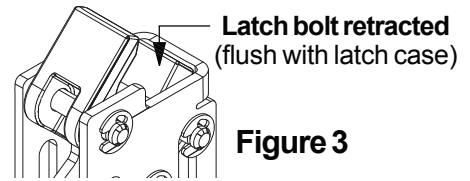

Figure 3
6. Rotate top adjusting screw clockwise until top latch bolt drops (Figure 3).